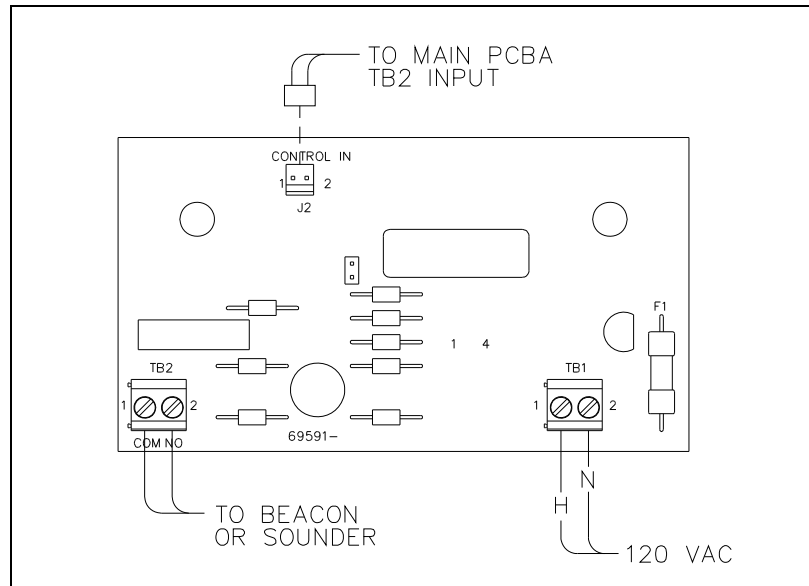

Figure 8. Ring Relay PCBA
- When a Ring Relay PCBA option is present, connect incoming 120 V ac power to the TB1 terminal block. See Figure 8.